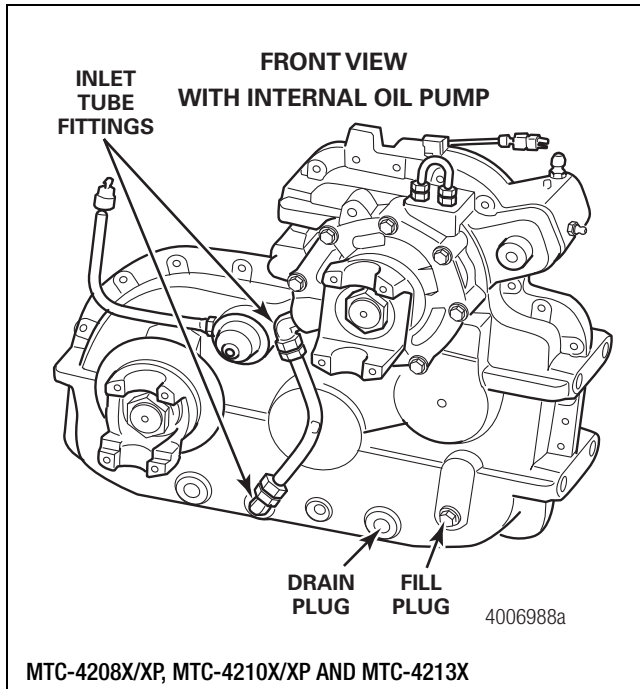

Figure 4.11
1. On transfer cases with an internal oil pump, remove the inlet oil tube from the transfer case by loosening the fittings at the lower front case and input-bearing cage. Figure 4.11.